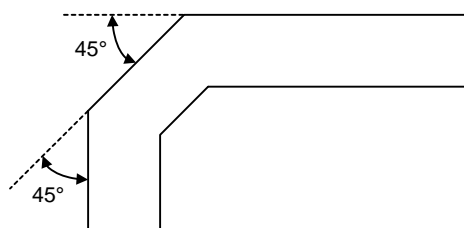

Figure 9. Trace Routing
- For high-speed signals, the number of corners and vias should be kept to a minimum. If a 90° bend is required, it is recommended to use two 45° bends instead. Refer to Figure 9.